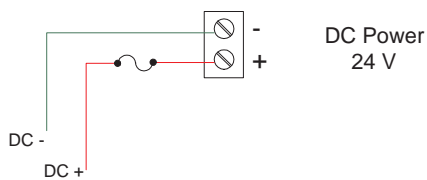

Figure 2. DC Power Connections
- Use two-terminal power connector as shown in Figure 2.